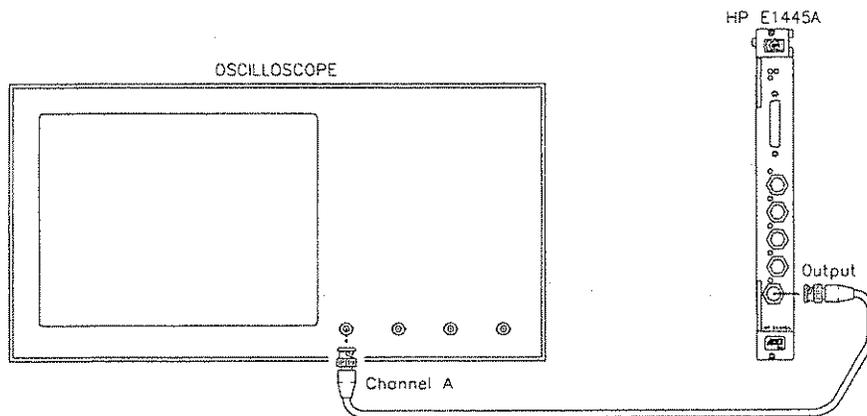

Figure 2-4. Output Relay Test Setup
2. Set up equipment as shown in Figure 2-4: